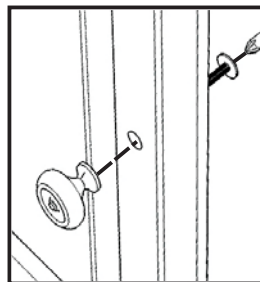

Figure 6
Assemble Pull Handles to Door (O) and (P) with Machine Screws. (see Figure 6)